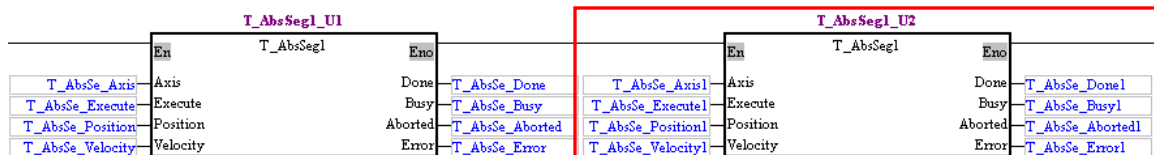

Figure 13-34 Automatically assigning default symbols to the pins of a function block again
- (2) If a function block definition has two function block instances in a program, the symbols assigned to the pins of the second function block instance will be generated according to the same rule after **Generate by Default** is clicked, but a number will be added to the ends of the symbols. Please see figure 13-34.